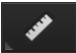

**Figure 10.4 Image Layout**
- ① Image Layout: Change image layout. When you click on the Image Layout button, a 3x3 grid shown in Figure 10.4 will appear on the screen. Select your desired layout. The largest image layout available 3x3.